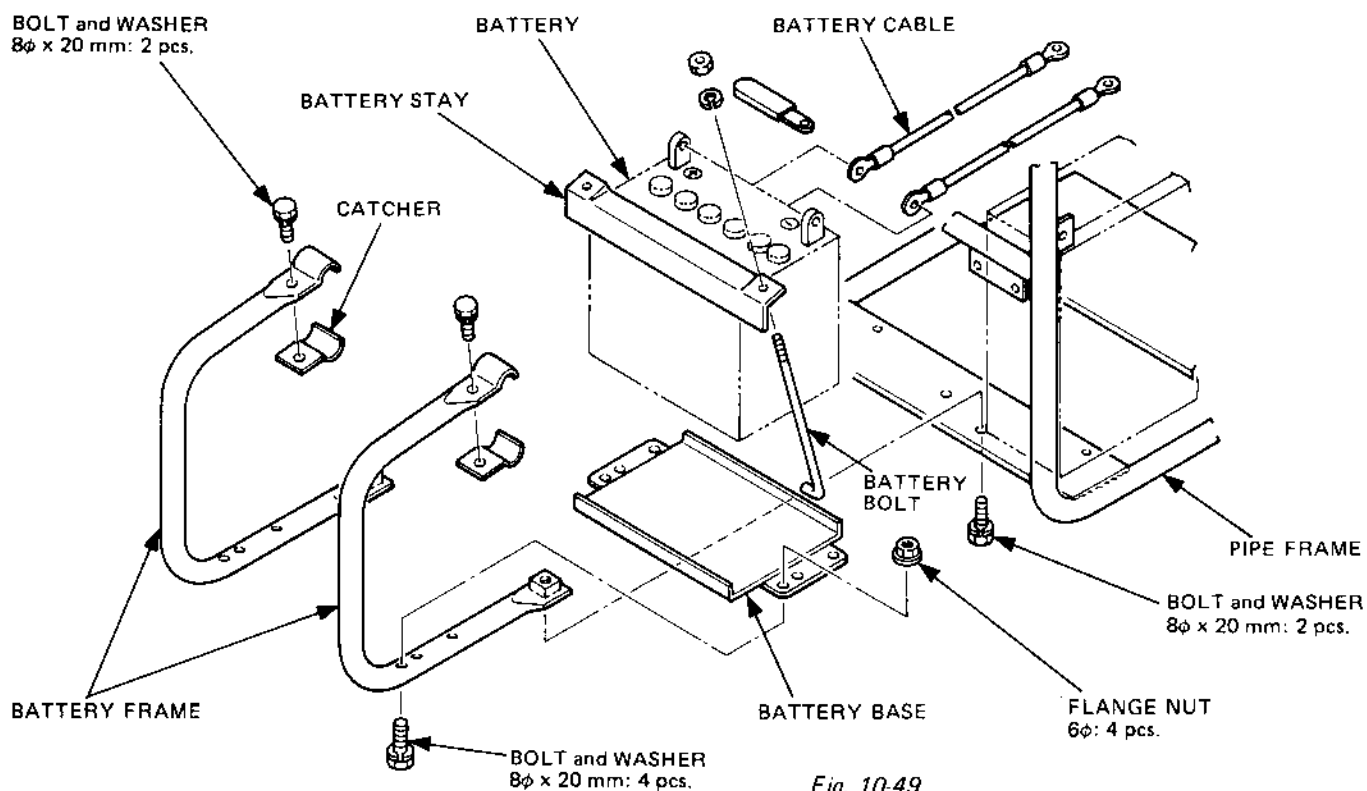

Fig. 10-49
- (1) Attach BATTERY FRAMEs to the frame. (See Fig. 10-49.)